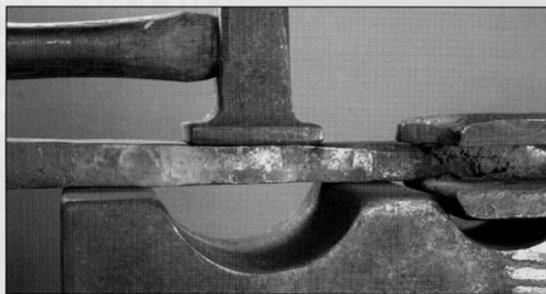

Fig 6. I cured the sideways bend first. I chose to use a rosebud for a concentrated heat as constant vise assembly was needed to check my progress as I worked
- As above, this may be a joint bolt fitting issue (fig 4) or a sideways bent arm(s) (fig 6)